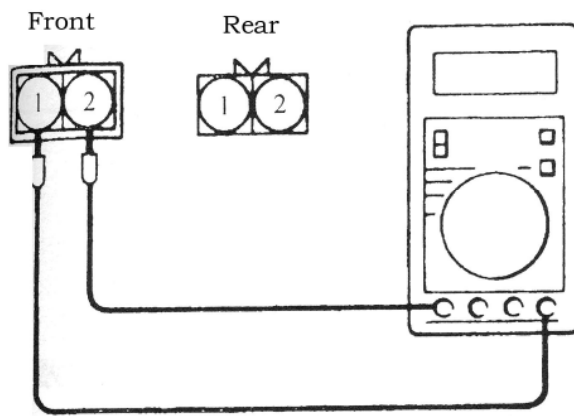

Fig. 16-66
1) Measure the resistance between the speed sensor terminals(see Fig. 16-66). If the internal resistance of the speed sensor is not within the standard value ,replace with a new speed sensor.